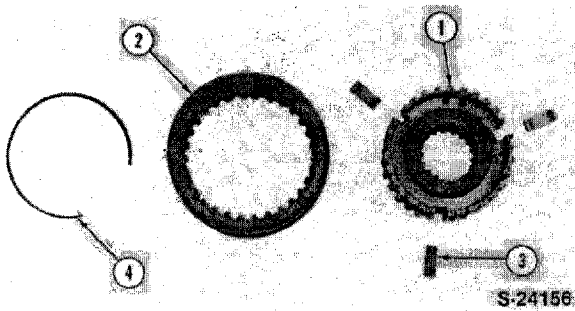

Figure 162
3. Assemble the synchronizer gear, keys, coupling and retaining rings, Figure 162.